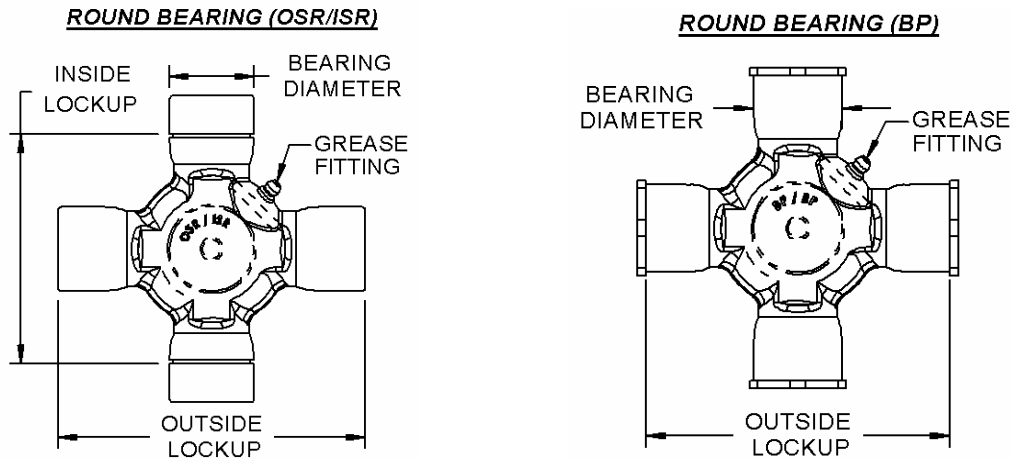
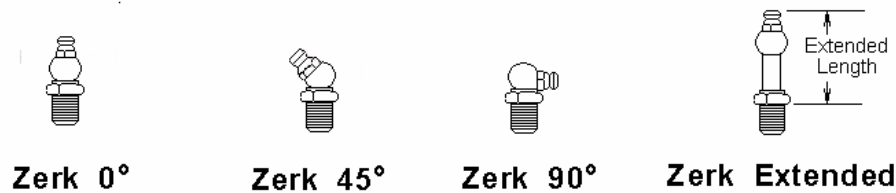

Figure 6
Figure 8
Round bearing sizes are based on the inside or outside “lockup dimension” and the “bearing diameter”. These dimensions are illustrated in Figure 6. To determine the series, measure the lockup dimension and bearing diameter and then compare the values to Table 2.
The final step in identifying a universal joint is determining if it can or cannot be re-lubricated. If a universal joint has a grease or “zerk” fitting it is “greasable”, meaning old grease can be purged from the joint with new grease. On the other hand, if there are no grease fittings on the joint then it is “non-greasable” and is unintended for re-lubrication. Grease fittings are typically located on the body of the universal joint (see Figure 6) but may also be on one or more of the bearing caps. If the universal joint is greasable then it is necessary to describe the style of the grease zerk. Zerk variations are illustrated in Figure 8. If the fitting is extended measure and record the length.
Step 5: If the fitting(s) are extended note the length. See Figure 8.